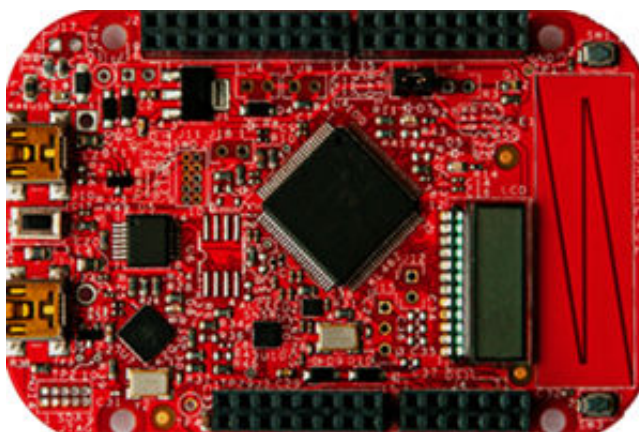

Figure 3. KL46Z Freedom Development Platform (FRDM-KL46Z)
- KL46Z Freedom Development Platform, Figure 3, based on the Kinetis KL2 family MKL26Z128VLH4 MCU